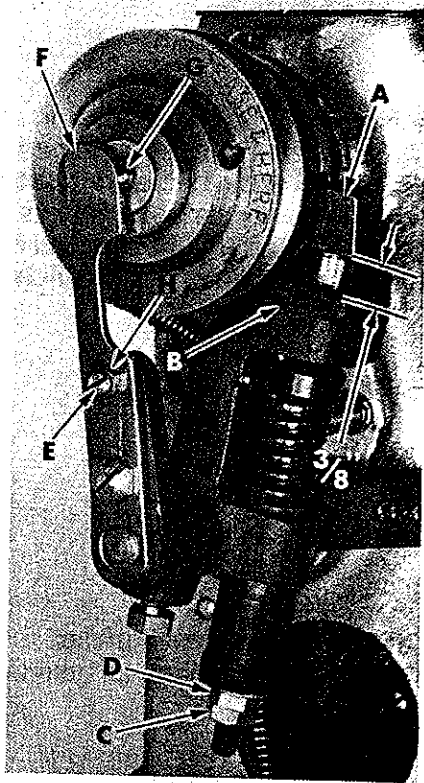

Fig. 1
This position is that which is shown in Fig. 1 with the stop motion disc and pawl against the plunger (A).
With machine in stop position, stop motion plunger (A, Fig. 1) should be set so that there is $\frac{3}{8}$ inch between the bottom of plunger and plunger lever bracket (B).